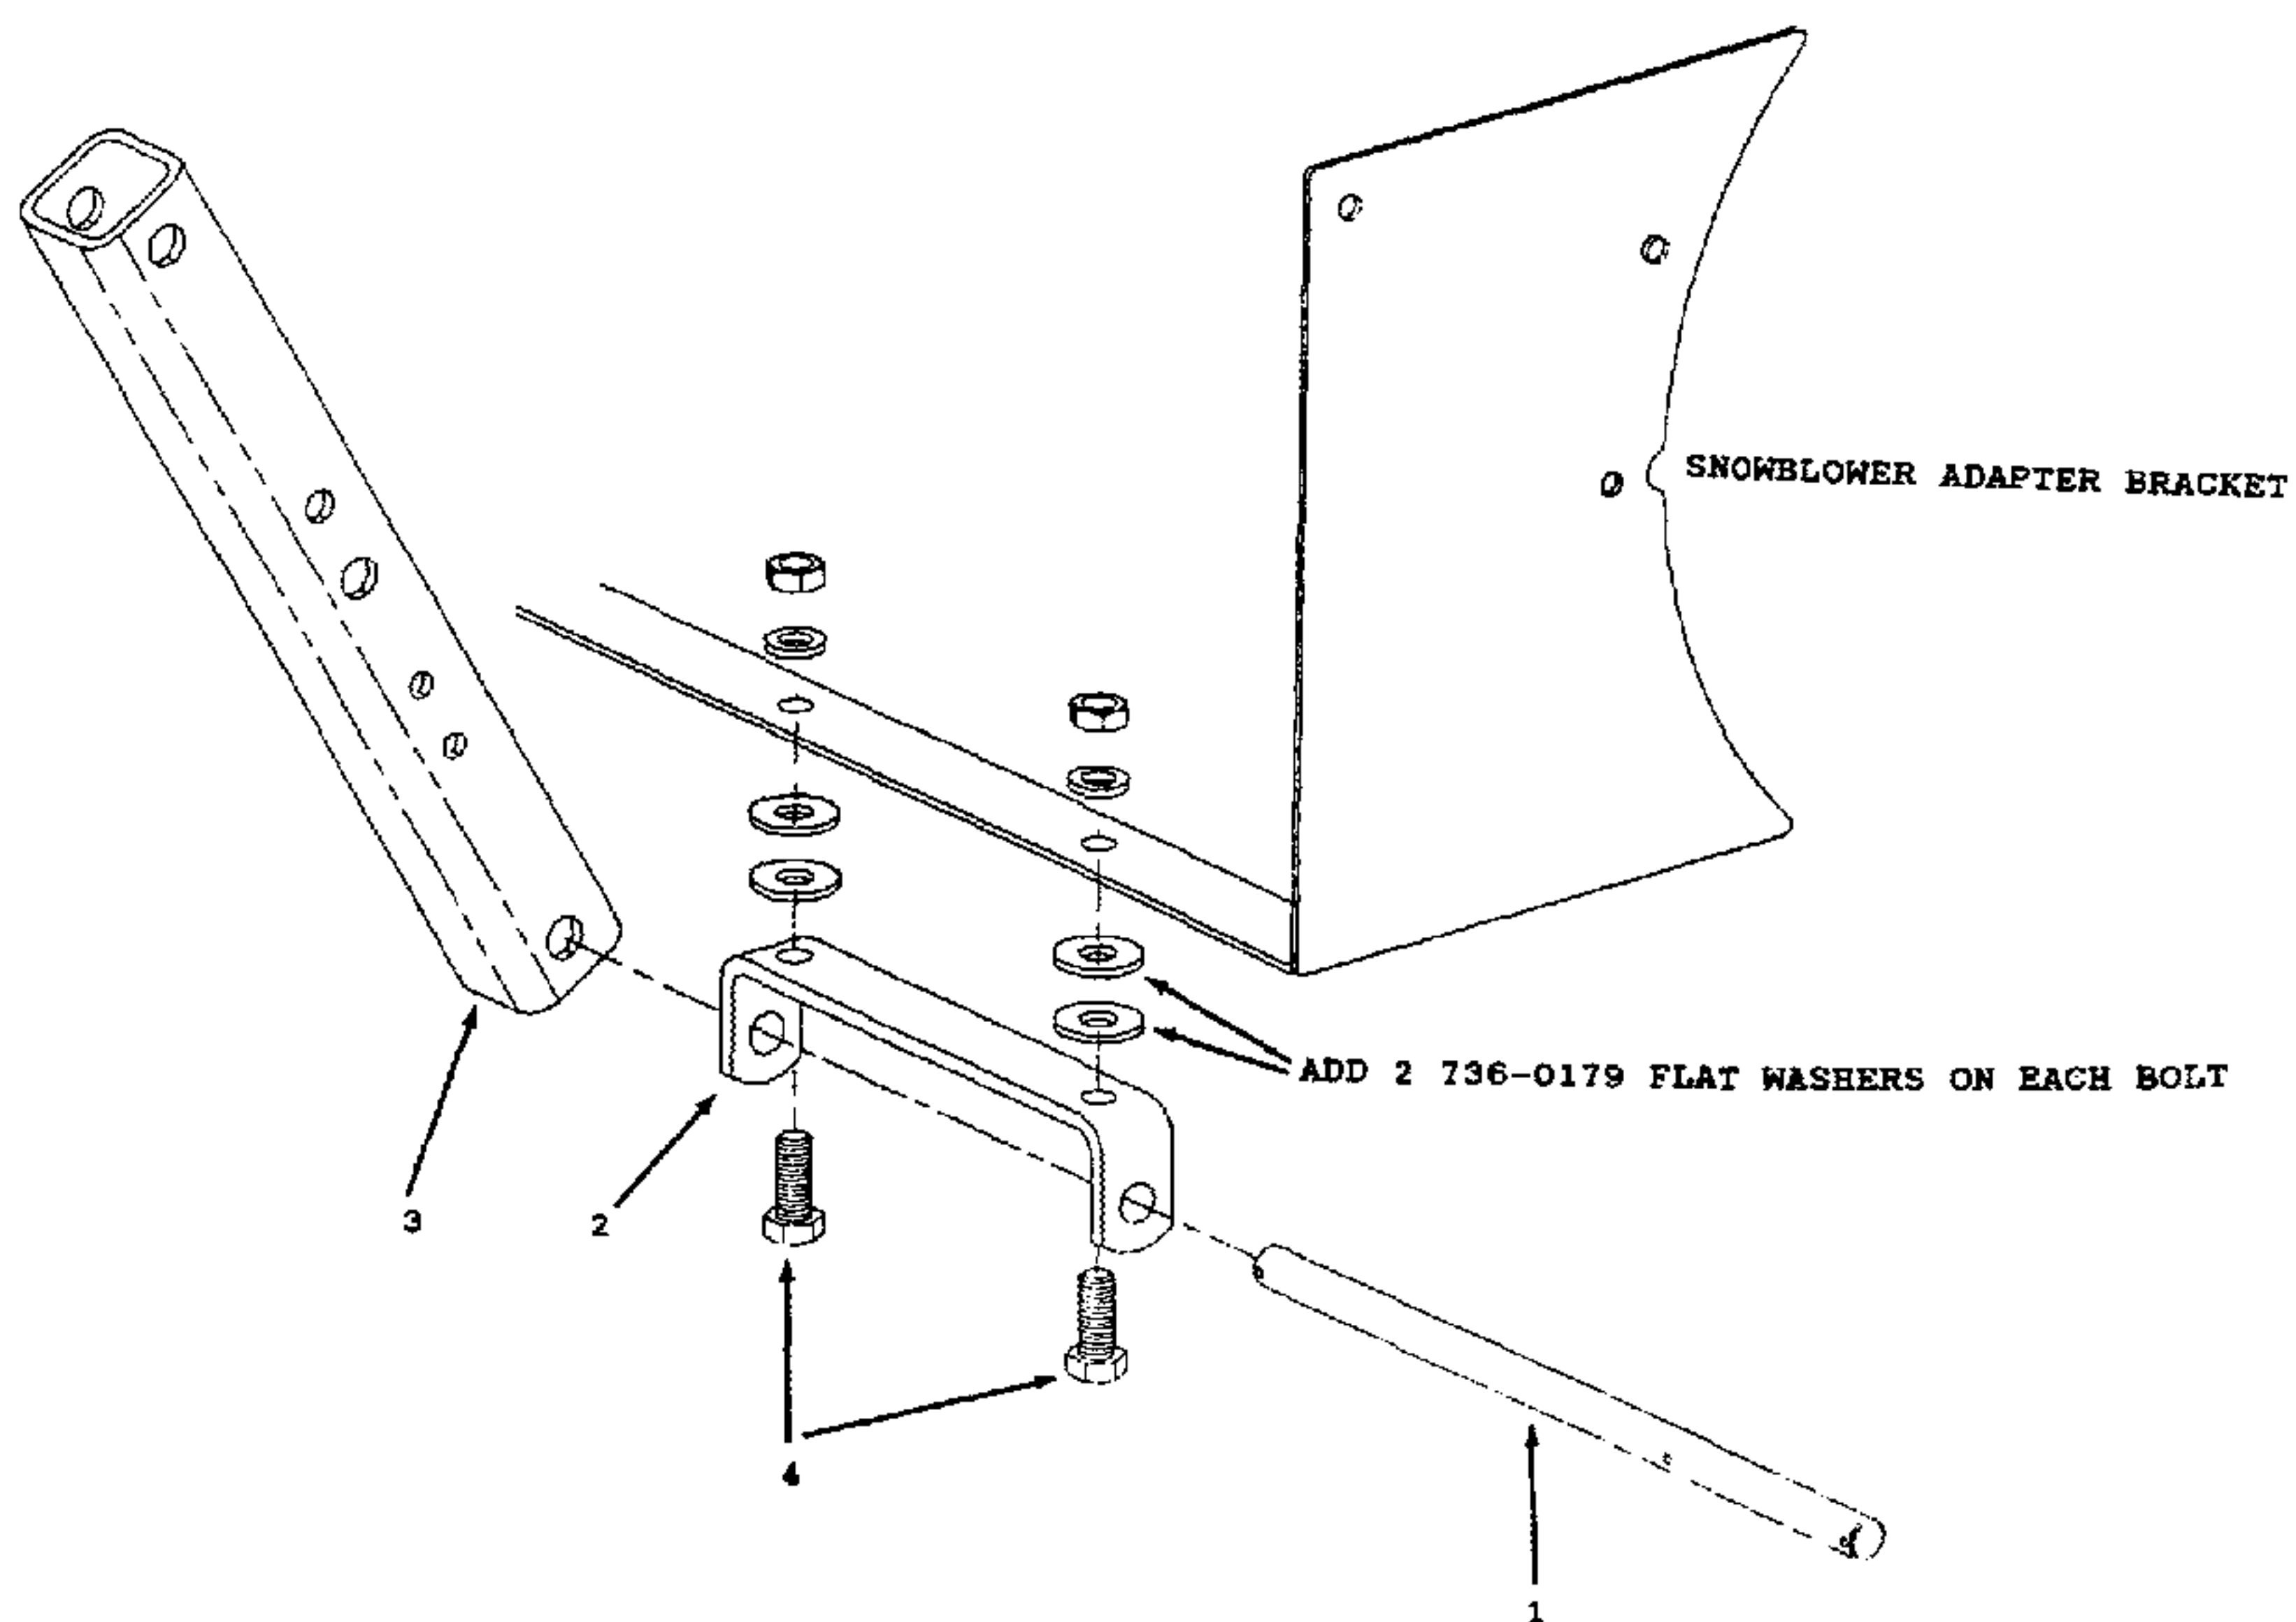

fig.1
5) Remove the rod (item 1 fig.1) from the square tubing (item 3 fig.1) that attaches to the lower portion of the snowblower housing.
6) Remove the pivot bracket (item 2 fig.1) from the lower part of the snowblower housing by removing the two 1/2 diameter retaining bolts and nuts. (item 4 fig.1)